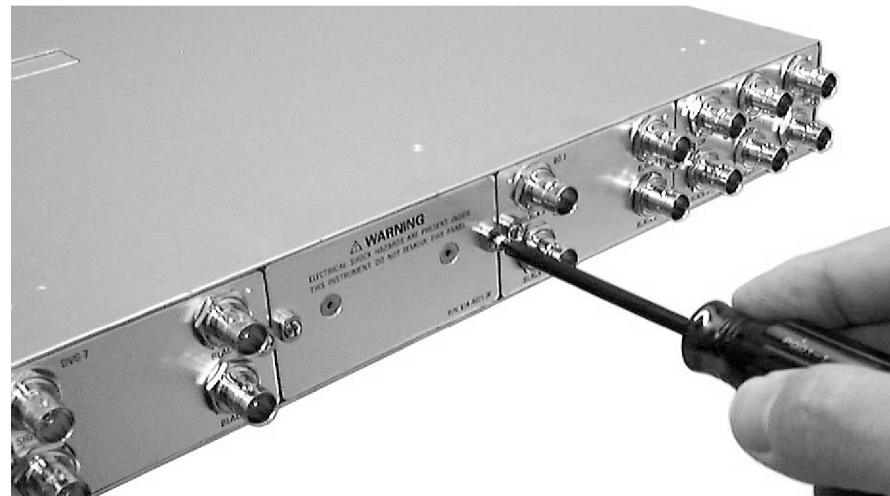

Figure 5: Removing the blank panel (TG700 shown)
3. Use a screwdriver with a #1 Phillips tip to loosen the two screws of the blank panel attached to the slot you want to use, and then pull it away from the instrument. Save the blank panel for future use. (See Figure 5.)